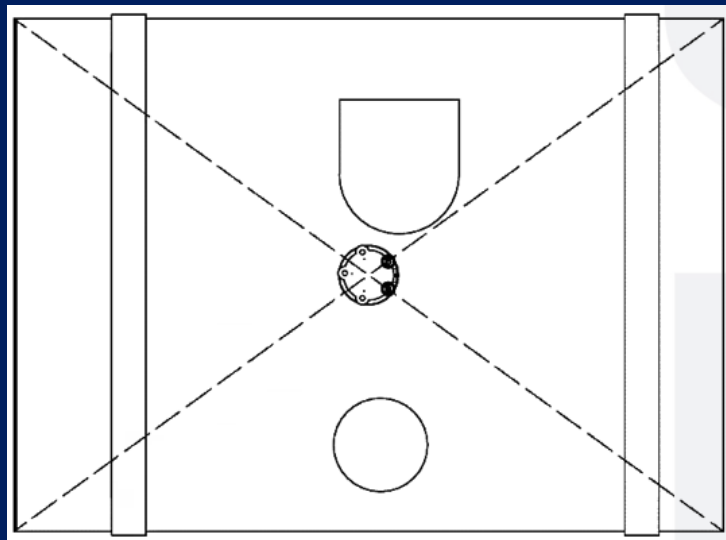

Figure 2 - Installing the BLE FLS in the center of the tank
1. Select the place of sensor installation. It is recommended to install the BLE FLS as close as possible to the geometric center of the tank, avoiding contact with the partitions inside the tank, as well as elements of the fuel intake and the standard fuel level sensor, in order to avoid fuel fluctuations during driving and parking on the clone, in accordance with figure 2.